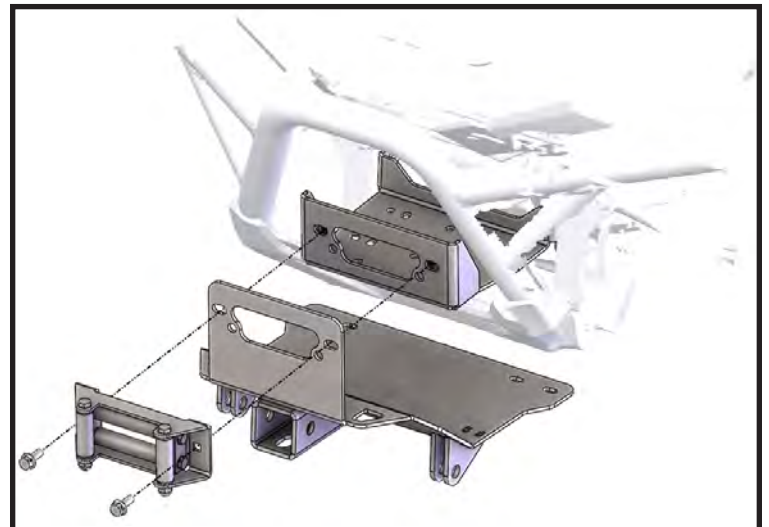

Figure 3: Install to winch mount.
2. Slide the winch mount in between the front bumper and into place shown in "Figure 3".
"Figure 3" Mount Location
5. Set mount brackets (5&6) along with rear frame spacers (4) inside of frame and loosely secure to holes (D) in frame using bolts (7.2) and nuts (7.3) as shown in **Figures 3 & 4**. *NOTE: Bolts will go through larger outside frame holes.*
6. Set nut plate (2) in frame lining up holes in nut plate (2) with holes (E) in the frame as shown in **Figures 3 & 4**.
2. Remove bolts (B) from lower portion of front bumper shown in **Figure 3**.